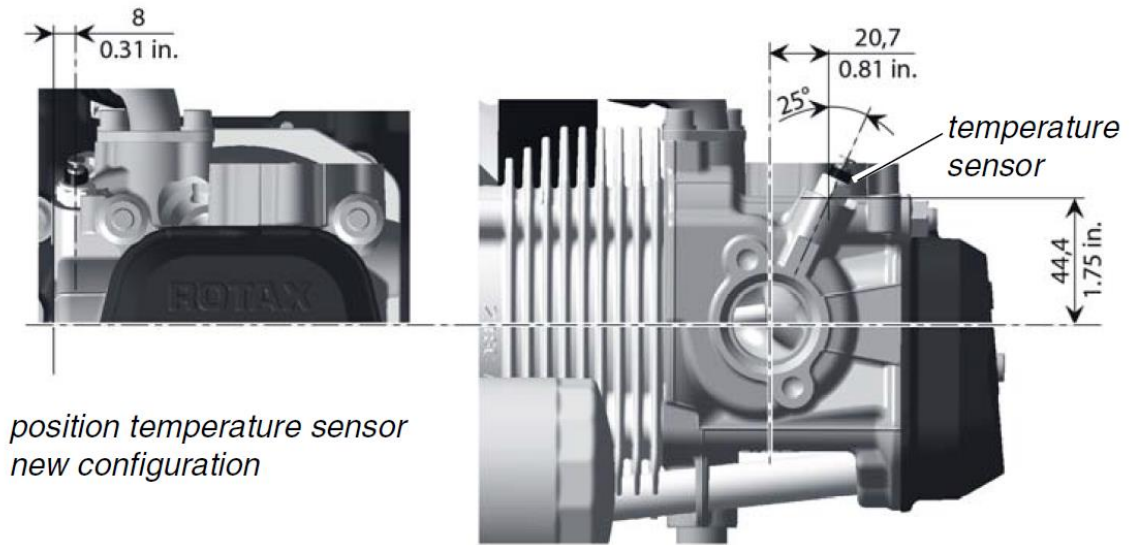

Fig. 1 – New generation cylinder head (measurement of CT)
For engines equipped with new cylinder heads (see figures 1 and 2) change instrument marking of the cylinder head temperature indicator (CHT) to coolant temperature (CT). A replacement instrument will be purchasable later.
- 2 Check configuration state regarding cylinder head design (see figures 1 and 2)